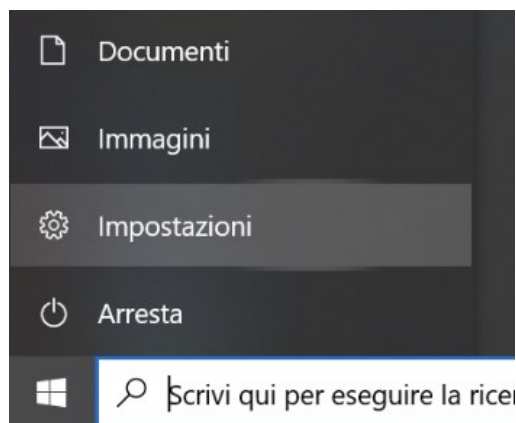

Fig. 8
2. From the Windows menu select Settings (Fig.8)